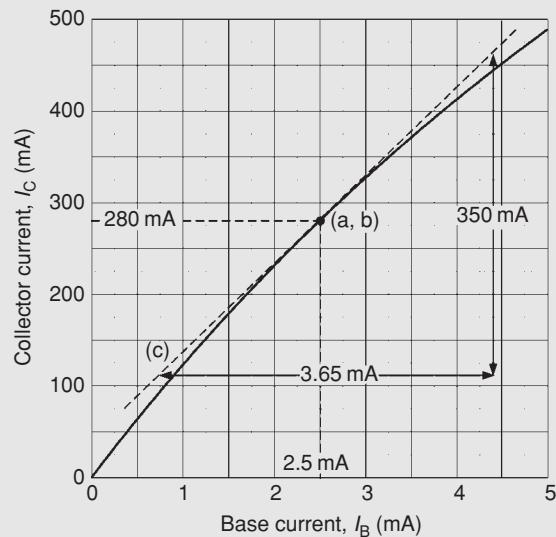

Figure 12.15
Problem 5. Figure 12.15 shows the transfer characteristic for an n-p-n silicon transistor. When the base current is 2.5 mA, determine (a) the value of collector current, (b) the static value of current gain, and (c) the dynamic value of current gain.
- (a) From Fig. 12.15, when $I_B = 2.5$ mA, **collector current, $I_C = 280$ mA** (see point (a, b) on the graph)
- (c) In Fig. 12.15, the tangent through the point (a, b) is shown by the broken straight line (c).